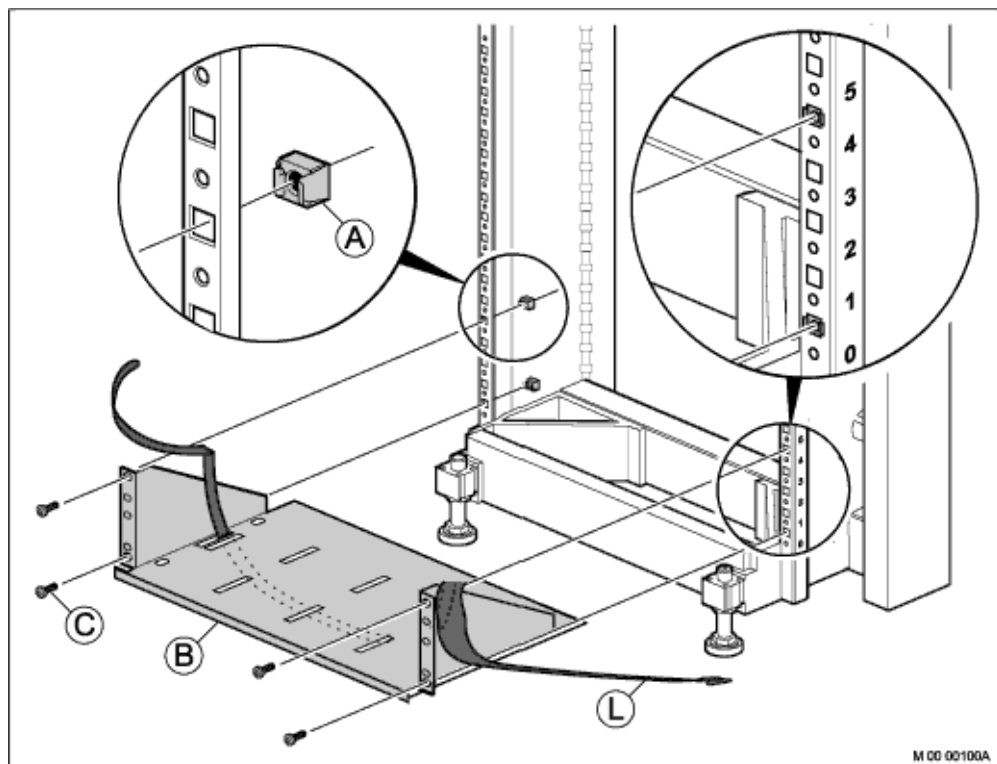

Figure 13: Installing the Battery Shelf
Begin battery installation by installing the battery shelf, that is supplied with the mounting set for the power equipment, at the bottom of the cabinet, see Figure 13:Installing the Battery Shelf on page 20.
1. Mount four captive nuts (A) (2.3 Installing Supporting Captive Nuts on page 18) in the cabinet according to the number positions shown, see Figure 13:Installing the Battery Shelf on page 20.
2. Insert the strapping belt (L) through the battery shelf.
3. Fasten the battery shelf (B) using four screws (C).